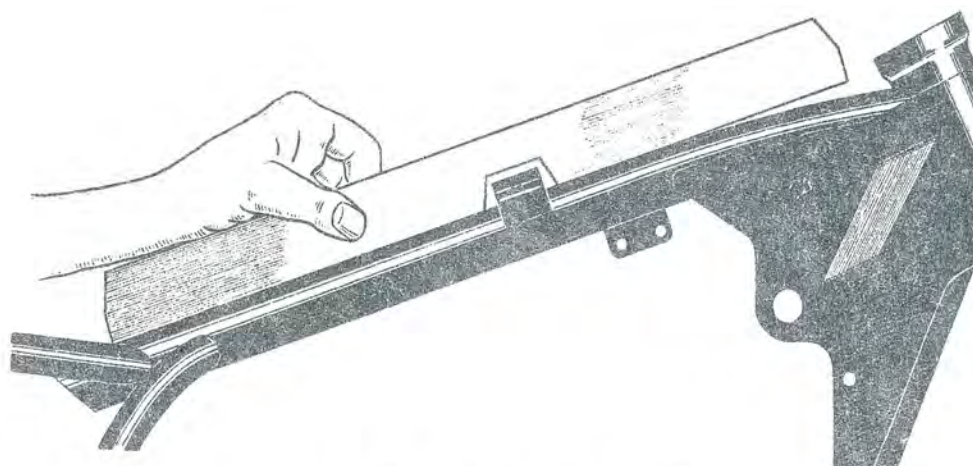

FIG. D.4. *Showing bent top tube.*
Sometimes if the machine has been subjected to a frontal impact, the main tube may remain parallel at points (A) but will be bent as shown in Fig. D.4. A straight-edge, made from a piece of good quality hardboard can be used for this purpose, but the checking edge must be quite straight.